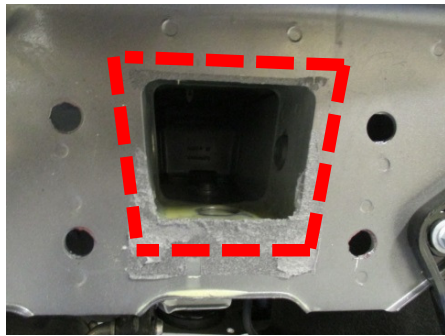
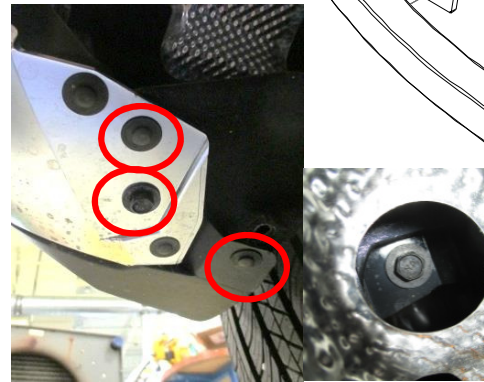

Figure 4
Figure 3
- Heat shield loosening** - use 8mm socket to remove (6) flange nuts which secure heat shield and rest the heat shield on muffler. Do not take the heat shield out of the vehicle.
- Bumper fascia removal** - use 10mm socket and flat screwdriver to remove (2) plastic rivets, (2) bolts at rear fascia bottom per side, see **Figure 3**, and (1) plastic rivet, (1) bolt at rear wheel well trim panel per side. Gently pull off the rear wheel well trim panel each side by unclipping the tabs inside. Gently remove the fascia by pressing the vertical tabs along inside top section of fascia and unplugging wiring each side. Set bumper fascia aside.
- Bumper beam removal** - use 16mm socket to remove (4) flange nuts inside bumper panel each side. Unclip the wiring attaching on bumper beam passenger side and remove the bumper.
- Hitch installation** - use silicone sealant to seal around the opening on the end panel each side, see **Figure 4**. Align all holes on the hitch bracket with the welded bolts on bumper beam. Raise the hitch/bumper together and place them through the original bumper mounting holes. Loosely fasten the nuts removed in last step.
4. Bumper fascia removal - use 10mm socket and flat screwdriver to remove (2) plastic rivets, (2) bolts at rear fascia bottom per side, see **Figure 3**, and (1) plastic rivet, (1) bolt at rear wheel well trim panel per side. Gently pull off the rear wheel well trim panel each side by unclipping the tabs inside. Gently remove the fascia by pressing the vertical tabs along inside top section of fascia and unplugging wiring each side. Set bumper fascia aside.
6. Hitch installation - use silicone sealant to seal around the opening on the end panel each side, see **Figure 4**. Align all holes on the hitch bracket with the welded bolts on bumper beam. Raise the hitch/bumper together and place them through the original bumper mounting holes. Loosely fasten the nuts removed in last step.